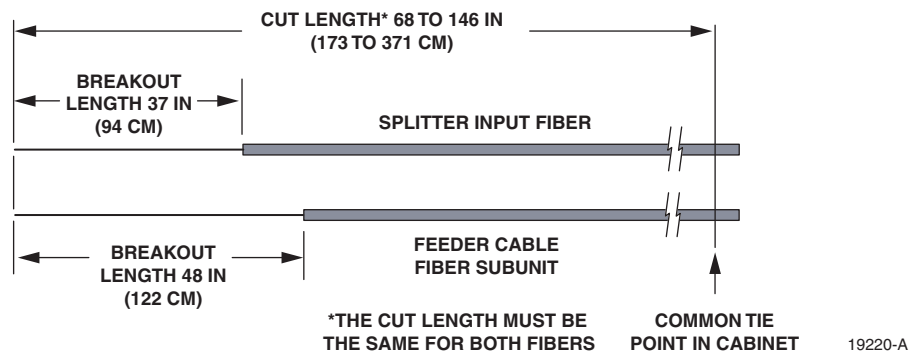

Figure 17. Cut Length and Breakout Length for Feeder Cable and Splitter Input Fiber
5. Starting at the common tie point within the cabinet, measure and mark the fiber cut lengths for the splitter input fibers and the feeder cable fiber subunits as shown in Figure 17.